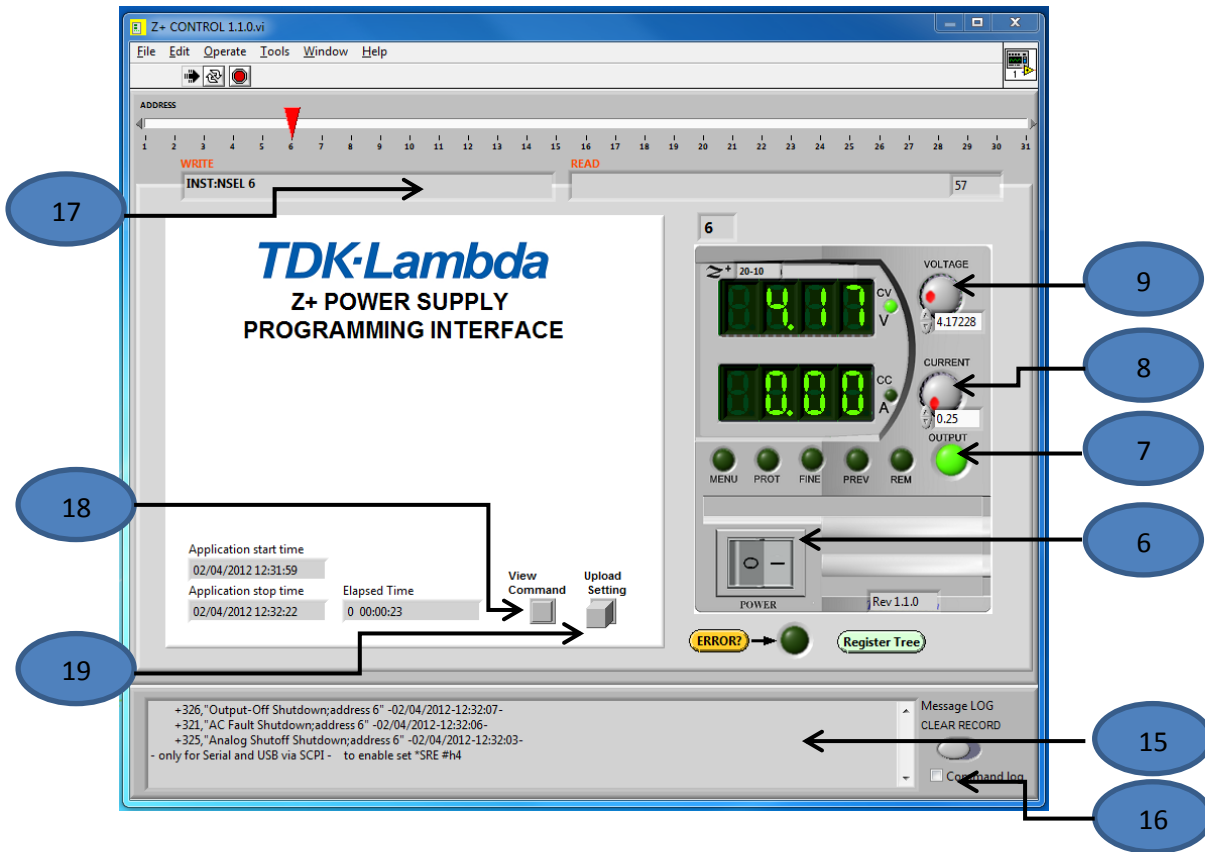
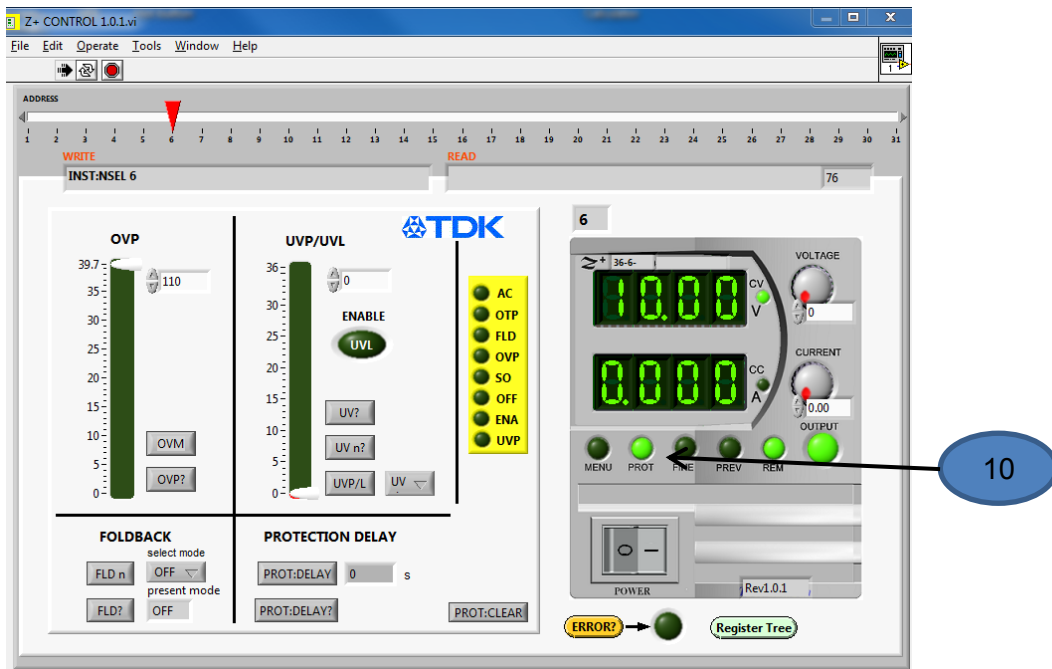

Fig 9
Fig 10
4. Switch ON Power switch (6). Refer to Fig 9
5. Press OUTPUT button (7) to enable / disable the output.
6. Change Voltage and Current setting by voltage (9) and current (8) encoder.
7. Press PROT LED/Button (10) for protection setting. To return - press button again. Refer to Fig 10.
8. Message Log (15). Shows all faults, error and warnings (command if (16) selected) which occurred during operation. This section is only applicable for SCPI via serial and USB interface.
9. View command button (18) for show/hide command row (17)
10. Update setting (19) functions refresh all application controls and indicator setting according PSU state.
14. To STOP the application, set power switch (6) to the OFF position. Refer to Fig 9